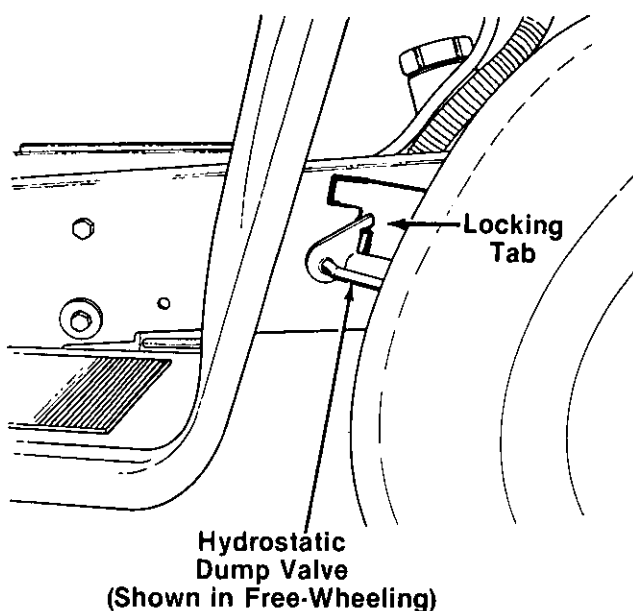

FIGURE 5.
1. To engage the dump valve (making the tractor free-wheeling), pull the dump valve handle out and pivot to the rear so it locks over tab. See figure 5.